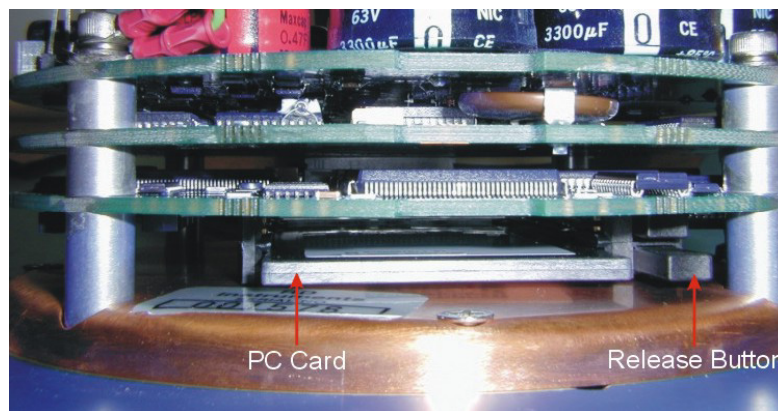

Figure 5. Memory Card Overview
Flash memory cards (see Figure 5, page 7) are available in 16, 20, 40, 85 and 220-MB cards. The internal recorder holds two cards for a maximum of 440 MB of recording space. The PC Card recorder is located on the Digital Signal Processor (DSP) board inside the Navigator's electronics. To recover data, the card can be removed and used in a personal computer (PC), or left in the Navigator, and accessed by using *BBTalk* (see the RDI Tools User's Guide).